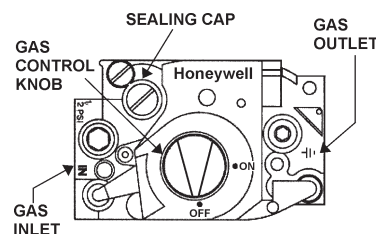

FIGURE 25.
Figure 25 shows the type of combination manual gas control valve and regulator used on these heaters.
3. Remove the regulator adjustment sealing cap and adjust the pressure by turning the adjusting screw with a screwdriver. See Figure 25.